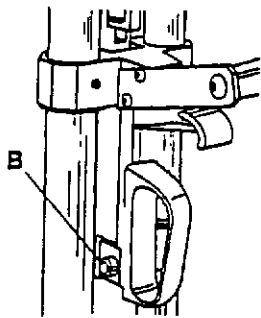

Figure 19
6. To break out the plastic, first hold the SHORT THUMB LEVER down and depress the DETENT (B) in Figure 19. While pushing the DETENT, release the SHORT THUMB LEVER. This will leave the DETENT automatically depressed and the cutting tool will be pivoted away from the plastic.